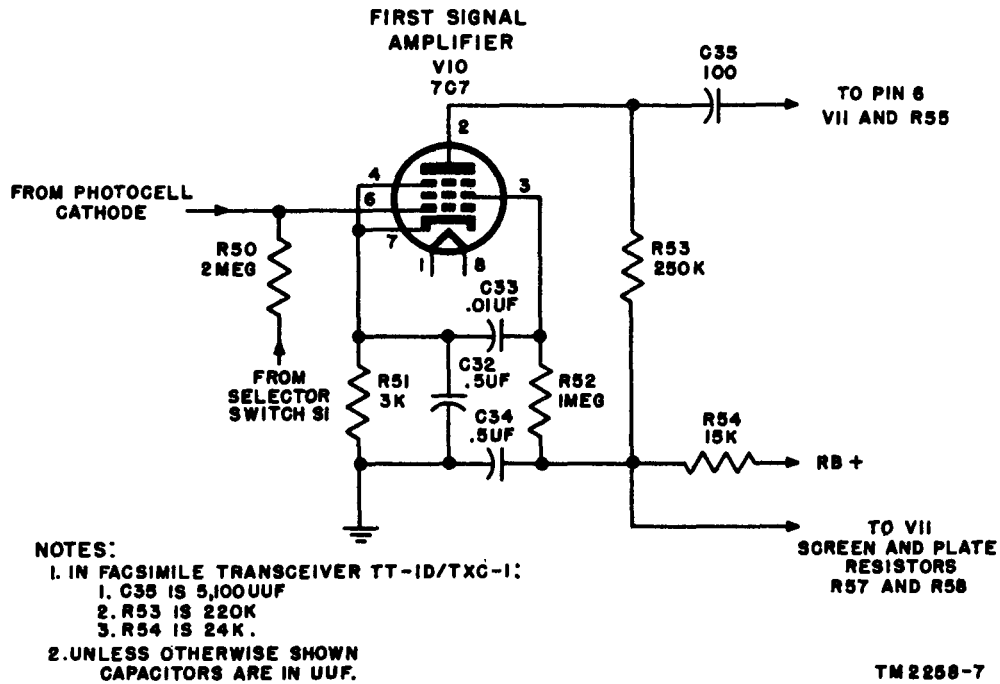

Figure 51. First signal amplifier, Facsimile Transceivers TT-1/TXC-1 through TT-1D/TXC-1, schematic diagram.
a. *First Signal Amplifier (V10)* (figs. 51 and 52). This stage is a high-gain pentode voltage amplifier, tube 7C7 (tube 5879 in Facsimile Transceiver TT-1E/TXC-1 and TT-1F/TXC-1), biased for Class A operation and used for both transmitting and receiving.
- (1) *Transmitting.* With the selector switch at TRANSMIT or SET RANGE, the grid of V10 is fed by the photocell bridge
The talk-back circuit, only on Facsimile Transceivers TT-1A/TXC-1 through TT-1F/TXC-1, is controlled by the STANDBY-MON-TALK switch (S5) on the front panel. The circuit is operative only when the selector switch (S1) is in the STANDBY position. When the STANDBY-MON-TALK switch is in the TALK position, the loudspeaker plugged into SPEAKER JACK J7 becomes a magnetic microphone and transforms speech sound waves into electrical currents, which are transferred to the line through the speaker transformer, amplifier stages V10, V11, and V12, and output transformer T2 (figs. 51, 53, and 54). For reception of voice signals with the switch in either the STANDBY or MON position, the signal from the line is fed through input transformer T7, the GAIN control, amplifier stages V10, V11, and V12, and through the speaker transformer to the speaker. The STANDBY-MON-TALK switch makes the following circuit connections: